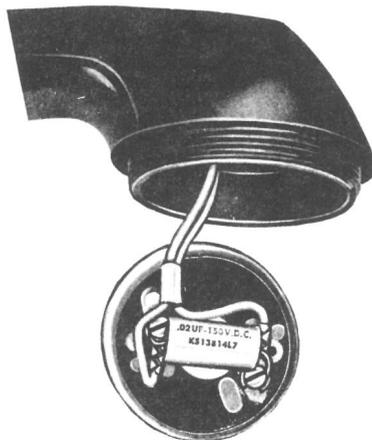

FIGURE 16. KS-13814, List 7 Capacitor, Handset Receiver Unit
7.07 The KS-13814, List 7 capacitor may be used to bypass the 44A varistor on a U1 receiver unit as shown in Figure 16. Place the capacitor against the varistor, keeping the capacitor leads as short as possible.